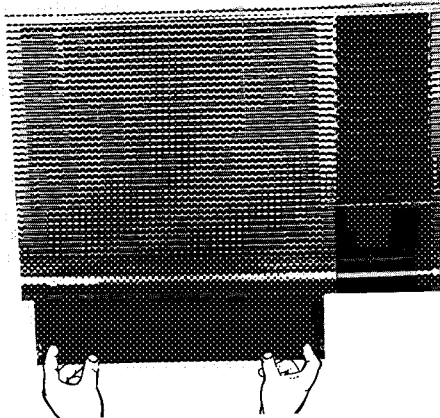

Fig. 1 – Removing Filter
1. Place index fingers inside the openings on either side of the filter frame. See Fig. 1.